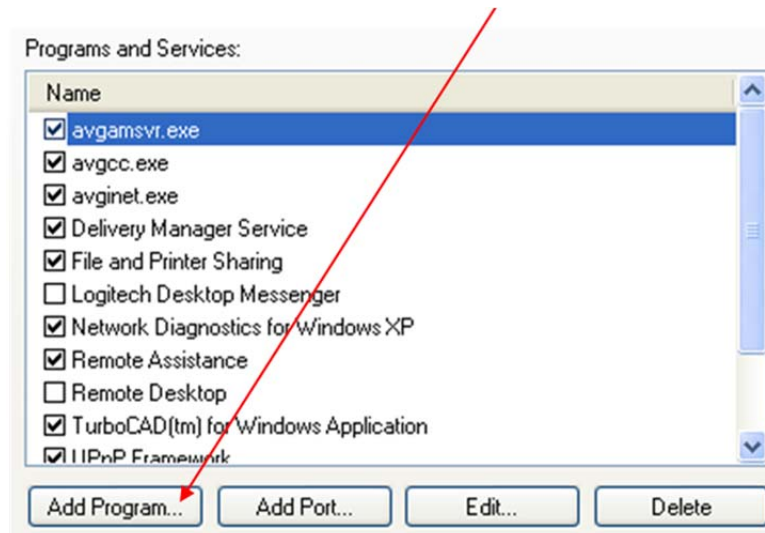

Figure III-25. List on Exceptions Tab
- d. For Windows XP or Vista, click the **Add Program** button (Figure III-25).